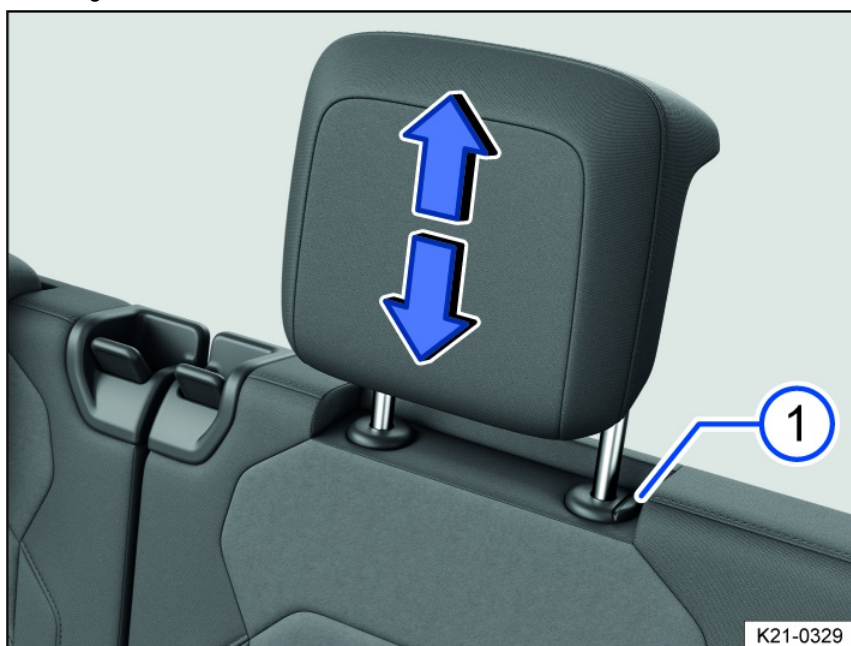
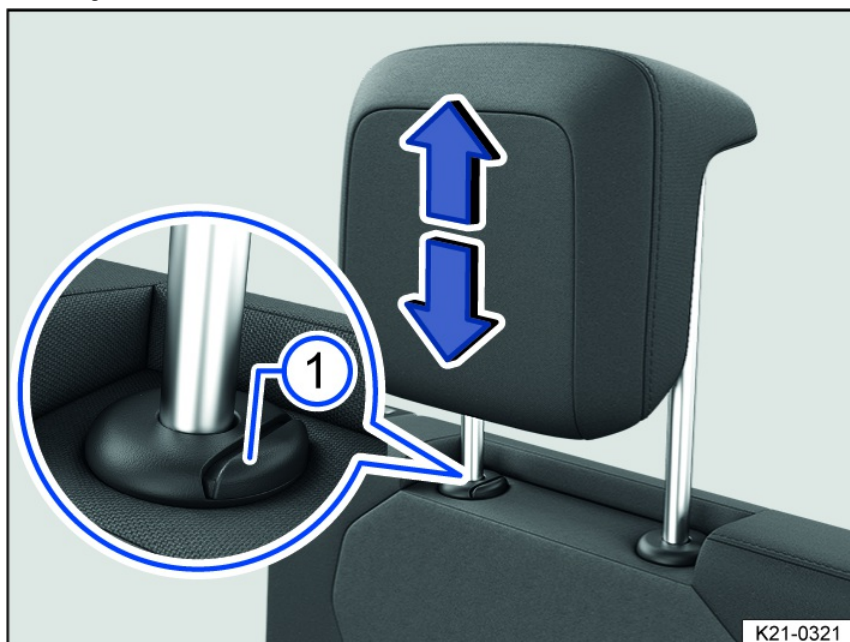

Fig. 92 Removing the head restraint on the second-row seats (general example).
Fig. 93 Removing the head restraint on the third-row seats (general example).
3. Pull the head restraint all the way out while pressing the fig. 92 button.
4. Pull the head restraint all the way out while pressing the fig. 93 button.
3. Push the head restraint downward while pressing the fig. 92 or fig. 93 button.